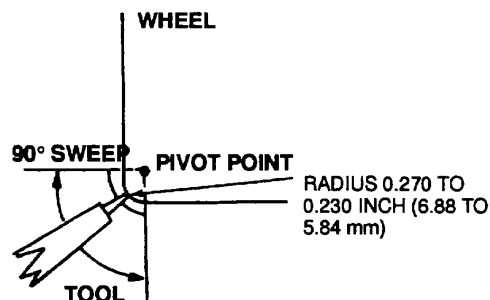

Figure 9-49. Grinding Wheel Edge Radius
The point of the diamond must be on a radial line from the pivot center of the dressing device so that the radii generated on the grinding wheel will blend smoothly to both the side and face of the wheel. The dressing tool must have stops to limit the travel of the diamond point to exactly 90 degrees to the face and sides of the wheel (Figure 9-49).
- (c) Adjust the diamond in the wheel dressing tool to form a radius of 0.270 to 0.230 inch (6.88 to 5.84 mm) on the grinding wheel edges (Figure 9-49).